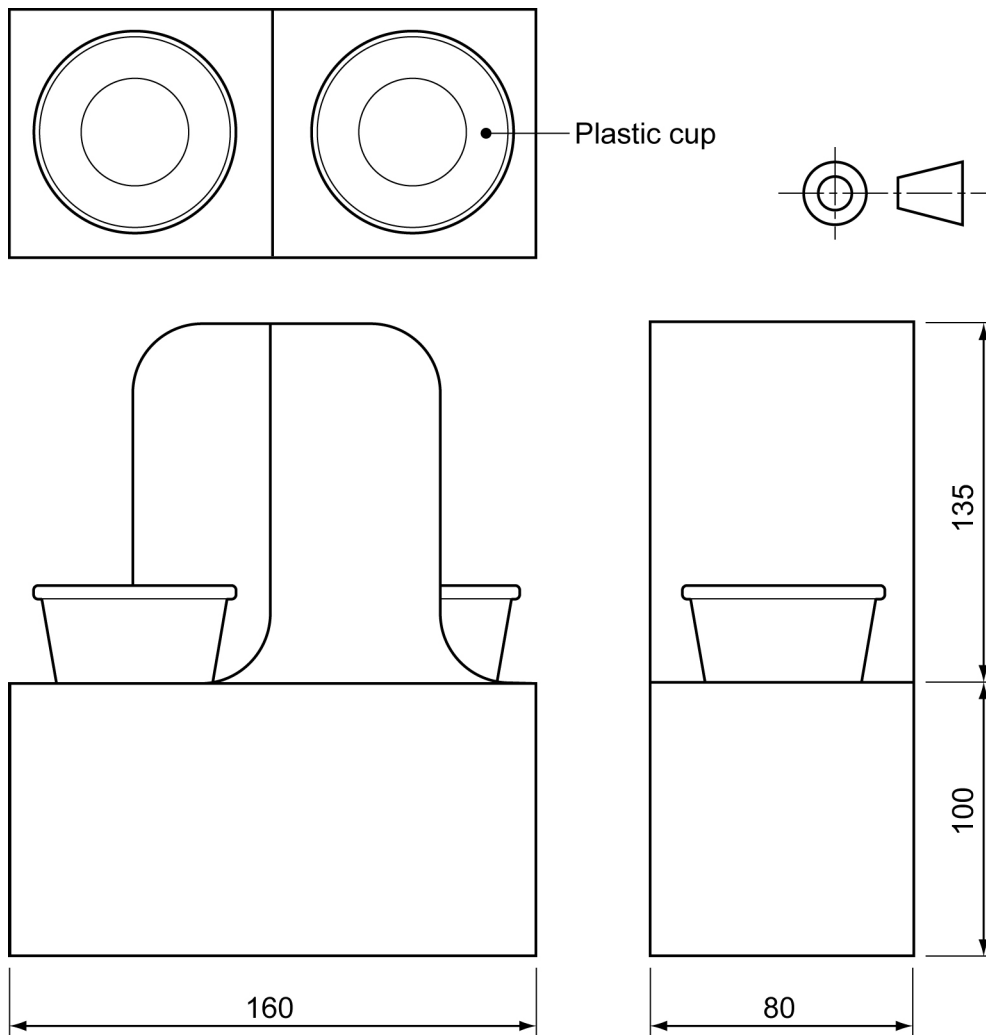

Fig. 8
- 8 Food and drink carriers are often used by fast-food restaurants. Fig. 8 shows an initial idea for a carrier to hold two plastic cups. The carrier is to be made from one piece of card.